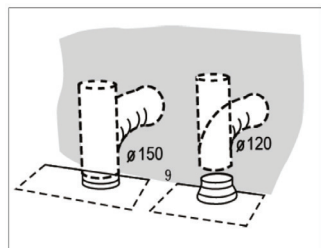

Fig. 7
4. After the hood has been hung, install the flexible outlet duct to the outlet opening (Fig. 7). Use a reducer fitting 150/120 mm in diameter, if required. Insert the second part of the flexible duct in the opening prepared in the wall.